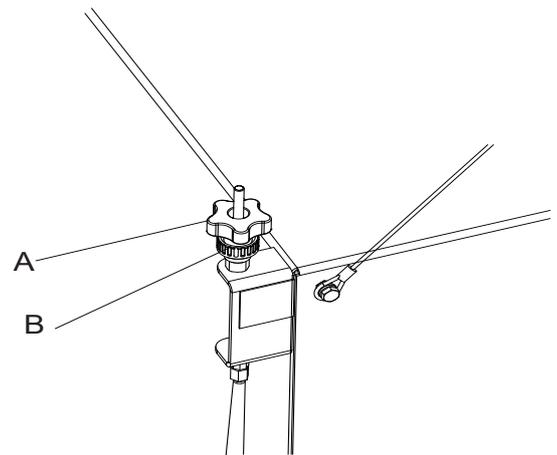

Figure2
4) Loosen the knob (A, Fig. 2) on the left side of the machine.
5) Turn the knob (B, Fig. 2) and remind that: